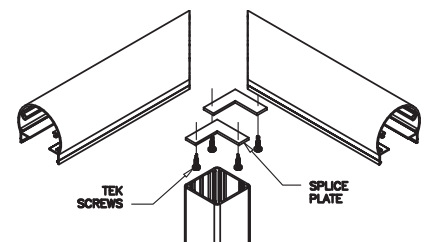

fig. 6
**3a. In-line Splices (fig.6):** Be sure to cut the top rail at 90 degrees and center the joint over a post. Secure the splice plates using four #10 x 3/4" TEK screws to ensure a strong splice.